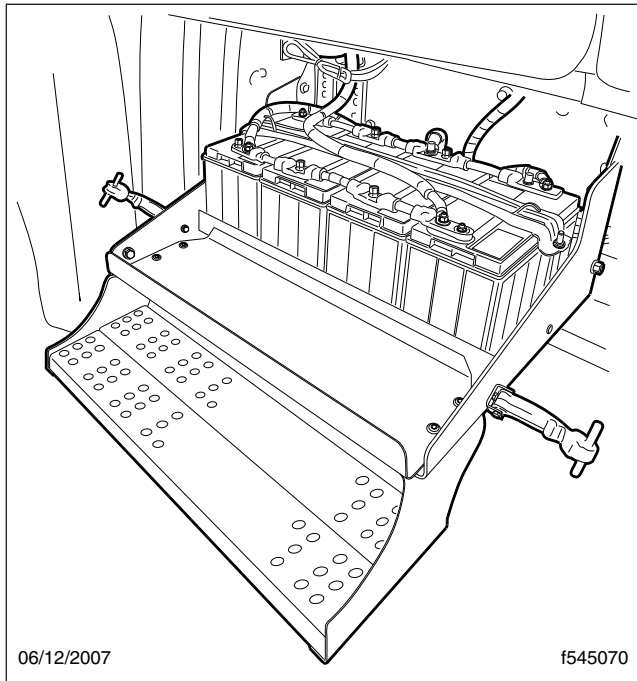

Fig. 24.4, Battery Compartment
- Remove the battery box cover by pulling on the end of each hold-down latch until the end clears the catch, then pivoting the latches out of the way, and lifting off the cover. See Fig. 24.4.